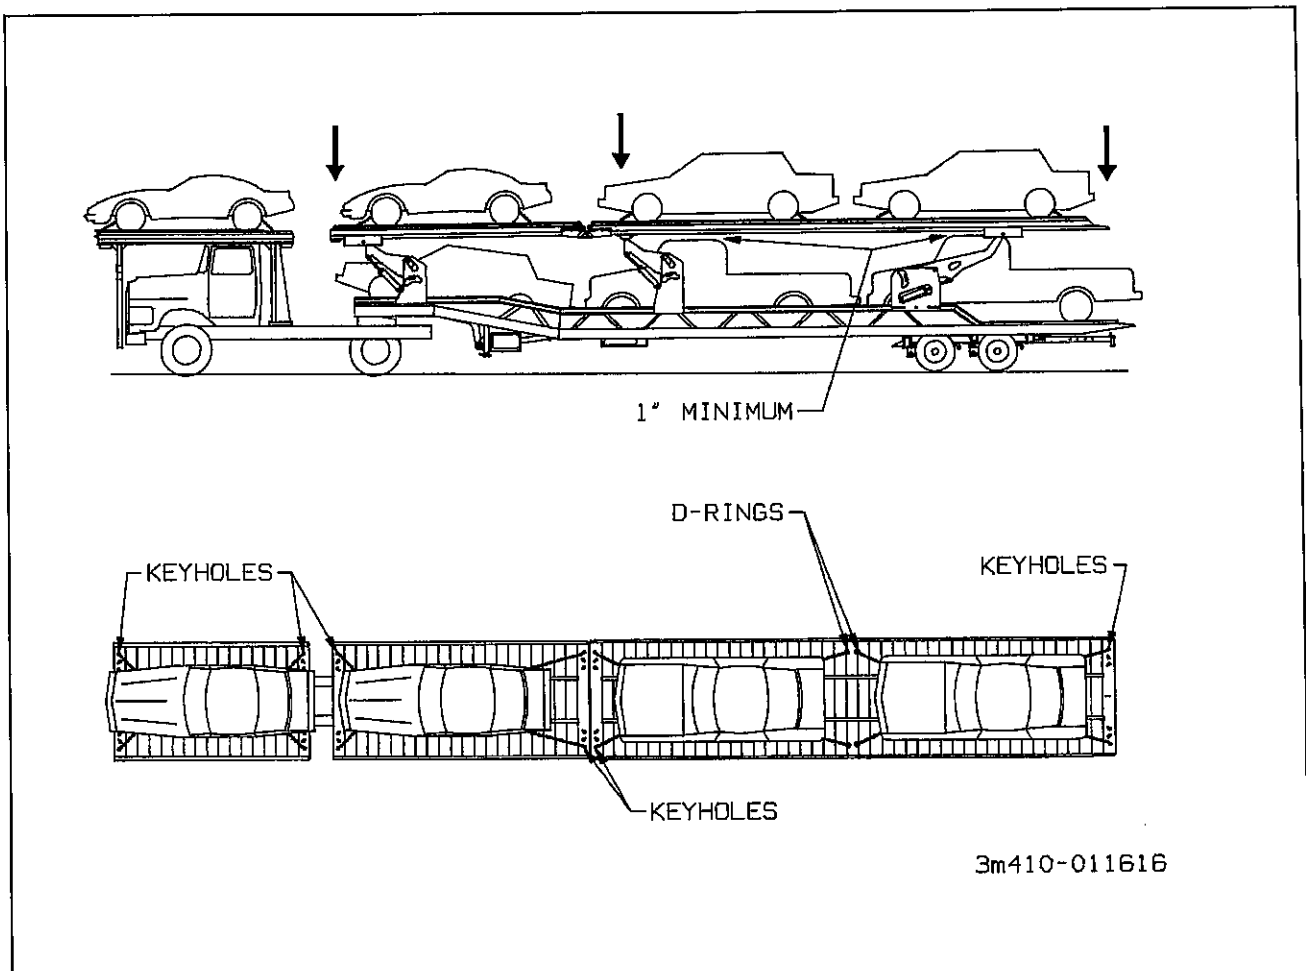

Figure 3-12 Securing the Load
m. Pull the vehicle onto the over-the-cab deck and secure with chains as shown in Figure 3-12 (see paragraph 3-11.7).
h. Lower the arms; front first, then middle, then rear; to allow a minimum clearance of 1" above the vehicles on the lower deck. (See Figure 3-12.)
a. All vehicles must be securely tied front and rear to the deck with 5/16 HI-TEST chain. Key holes are provided in the front and rear of each deck floor to anchor and D-rings are provided in the mid section of each trailer deck for anchoring. (See Figure 3-12.)